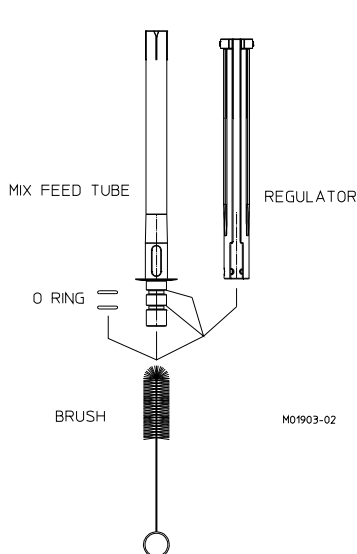

Figure 8-5 Clean the mix feed tube
a. The mix feed tube, regulator main bore and cross holes (figure 8-5).